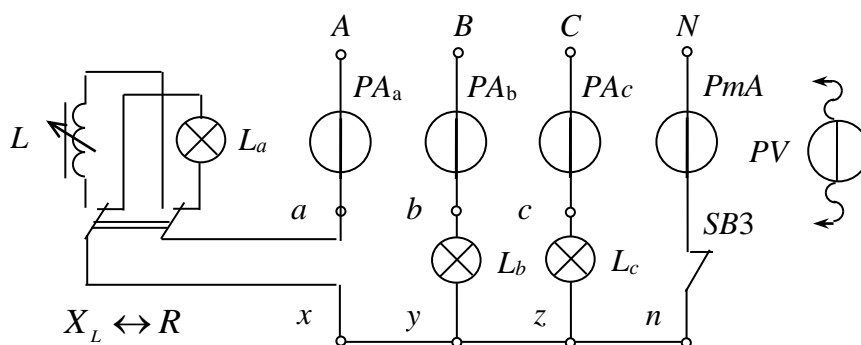

Fig.6.5
1. To collect the circuit (fig. 6.5) and connect it to the clamps A, B, C, N of the three-phase voltage power source $< 3 \sim 220 \text{ V} >$.
3. To investigate the circuit (fig. 6.5) with non-balanced loading $R_a \neq R_b \neq R_c$ ($SB1$ and $SB2$ are open, switch « $L \leftrightarrow \Pi$ » in position Π) with neutral ($SB3$ closed) and without neutral ($SB3$ open). To write down the results to the table 6.3.
4. To investigate the circuit (fig. 6.5) with balanced loading $I_A = I_B = I_C$ ($SB2$ closed, switch « $L \leftrightarrow \Pi$ » in position L) with neutral ($SB3$ closed) and without neutral ($SB3$ open). In order to balance the phase currents it is necessary to move the core in the coil. To write down the results to the table 6.4.
The name and purpose of work. Homework – the calculation of the circuit. Schematic diagram of the investigated circuit (fig 6.5). Tables 6.2, 6.3, 6.4. The vector diagrams. Conclusions.